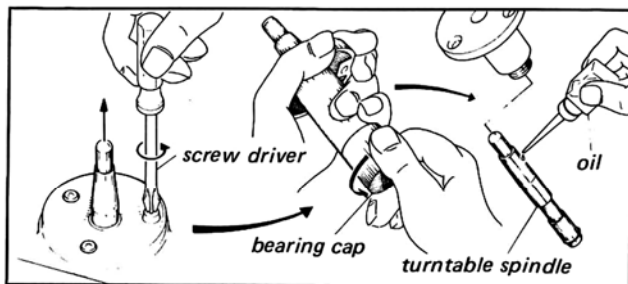

Fig. 3-5
- 1) Remove the turntable spindle ass'y as Fig. 3-5.